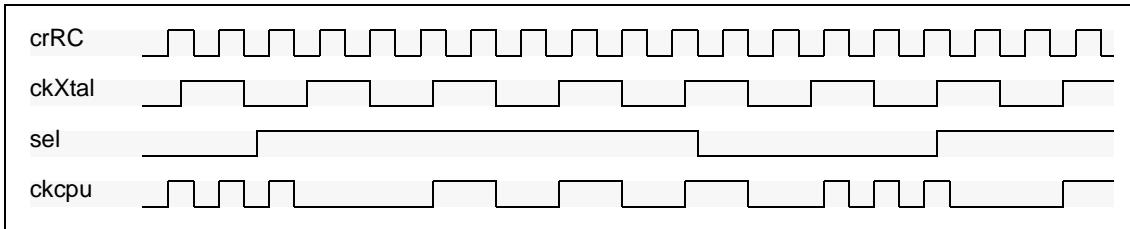

Figure 7.3: CPU clock selection
**Note:** Selection of clock is made without glitches thanks to a specific block (see Figure 7.3).